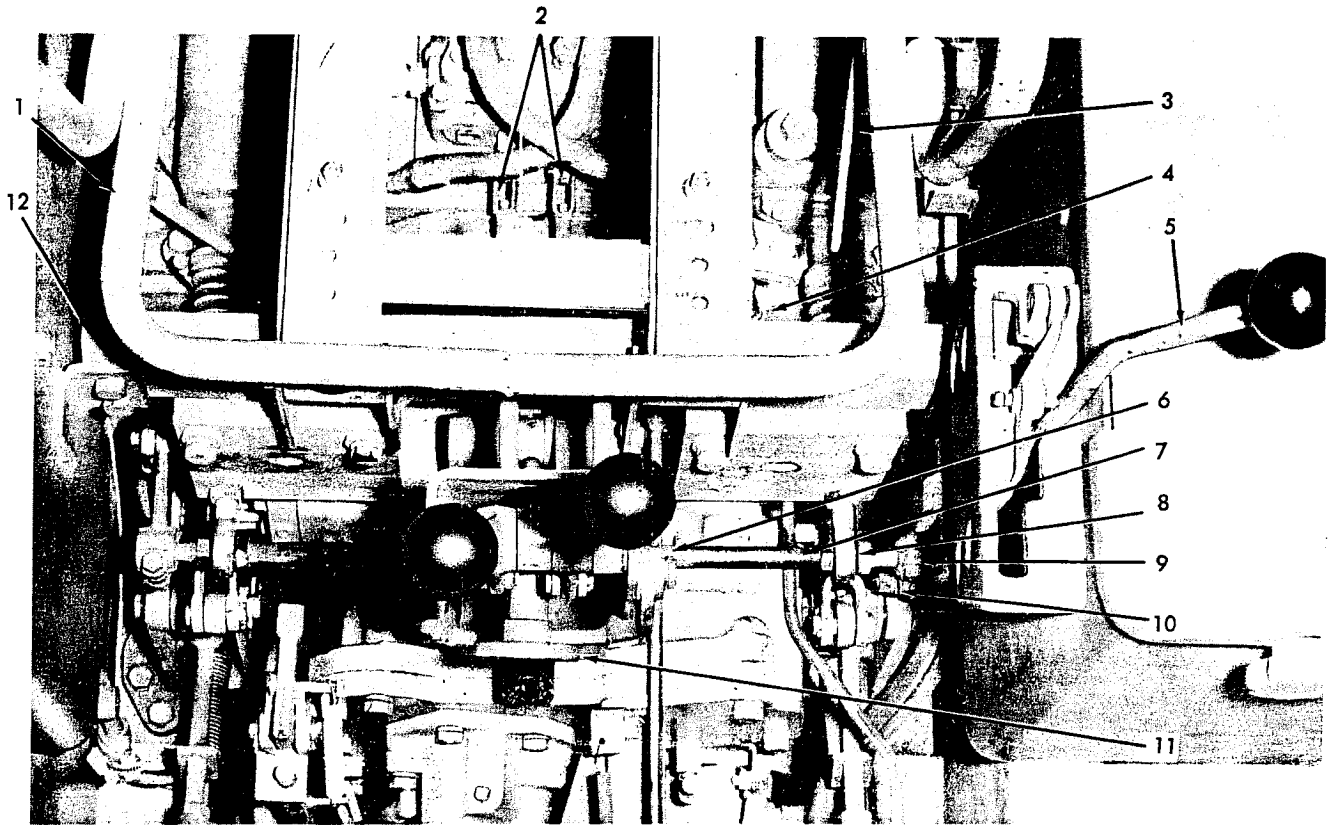

Fig. 22 -- Transmission Installed Prior to Removal of Seat Frame
3. Tilt steering levers and seat frame forward; remove rear jam nuts from rod ends, Fig. 22 (8). Remove attaching capscrews from seat supporting front channel; remove seat frame and support channel assembly.
4. Disconnect cross shaft end levers, Fig. 22 (9), from connecting rod ends and steering control rods (2) from control valve plungers.